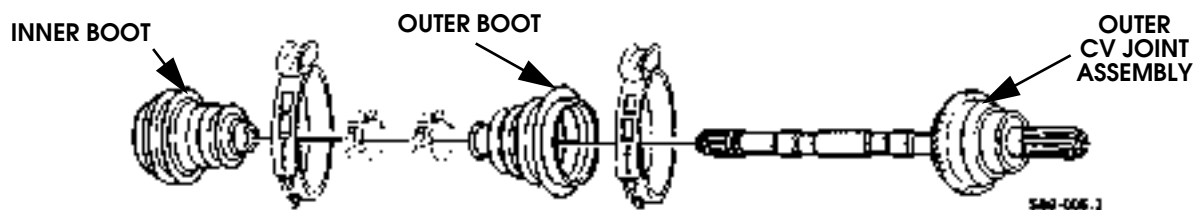

Figure 9-49: Halfshaft Boot Replacement
6. Position two clamps on shaft (Figure 9-49).